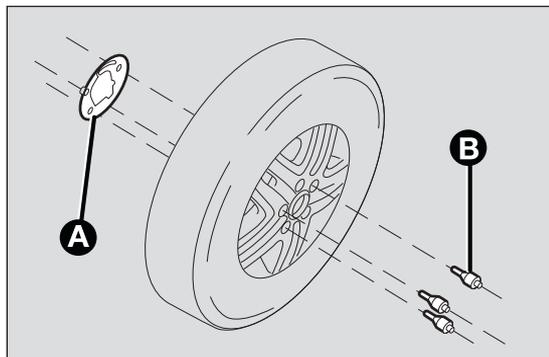

fig. 178
- fit the appropriate plate A fig. 178 on the alloy wheel and fix it with the screws supplied B, using the wrench provided;